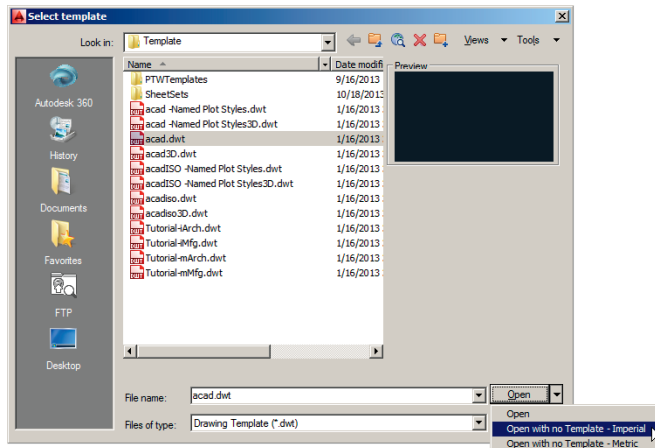

FIGURE 1.17 Opening a drawing with no template
1. Click the New button on the Quick Access toolbar. Click the arrow button next to the Open button in the Select Template dialog box, and choose Open With No Template – Imperial (see Figure 1.17).